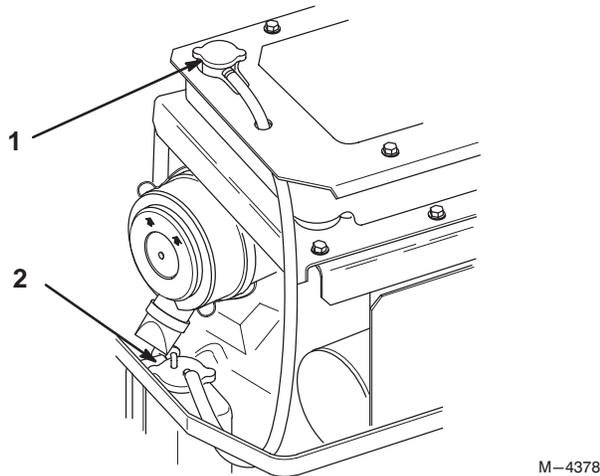

Figure 43
3. With the engine cool, remove the radiator cap (Fig. 43).
6. Add 50/50 coolant mix to overflow bottle and fill to indicator line on the bottle, if required (Fig. 43).